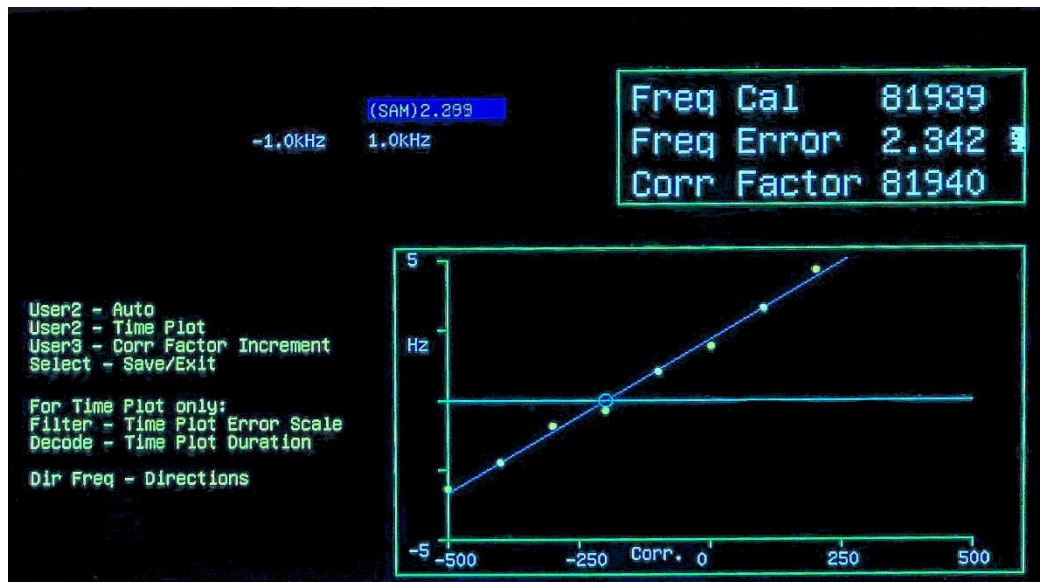
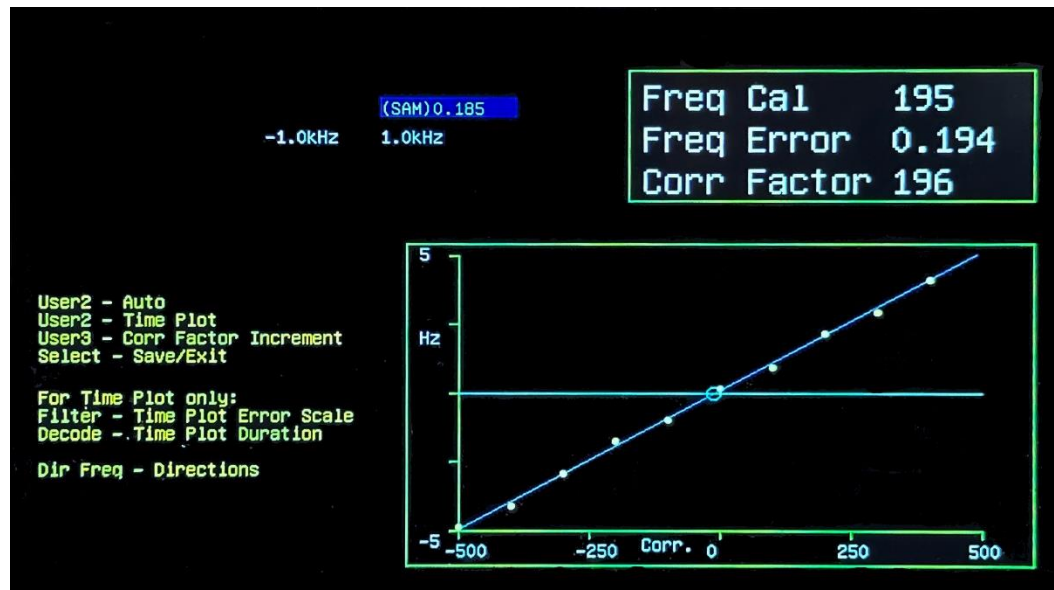

Figure 1 Auto Frequency Calibrate Crystal Reference
Figure 2 Auto Frequency Calibrate TCXO
- Auto-calculation to the best correction factor uses linear regression. The Si5351 frequency output is a linear function of the correction factor. The zero error point is found by varying the applied correction value while measuring the frequency error and then creating a linear regression trend equation to predict the zero error correction factor value. Figure 1 shows the linear regression plot for a crystal reference fir the Si5351. Figure 2 shows the result for a TCXO reference.